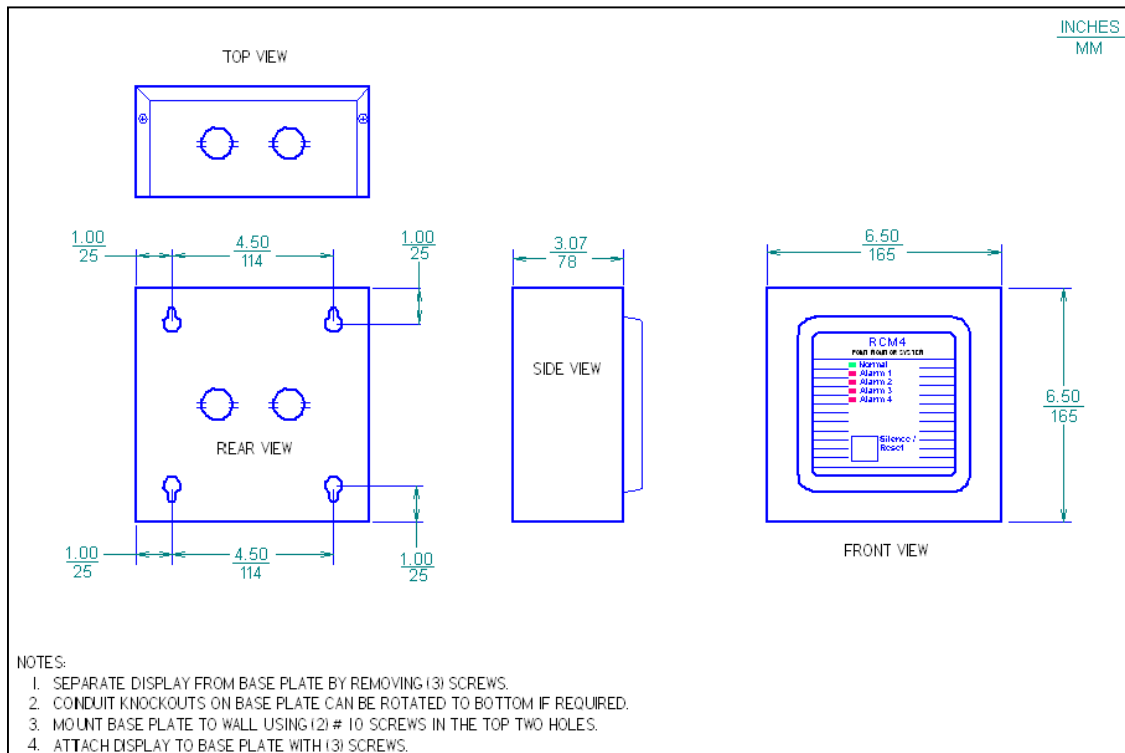

Figure 2: Enclosure and Mounting Dimensions
Using the base plate as a template if necessary, locate and drill (2) mounting holes. Refer to Figure 2. Using #10 screws, affix base plate to interior wall. Ensure base plate is secure and level.
The following user selectable operations are set by **DIP SW1** on the display circuit board: Refer to Table 1 and Figure 2.